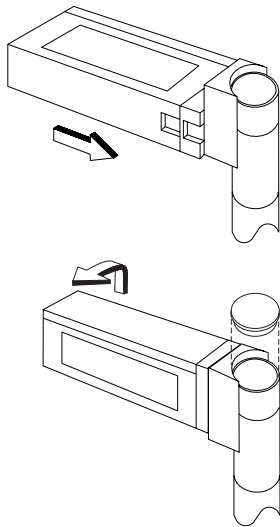

Figure 56. Assembling the display
5. Hold the display holder against the post as shown in Figure 56 so the interlocking surfaces touch each other.